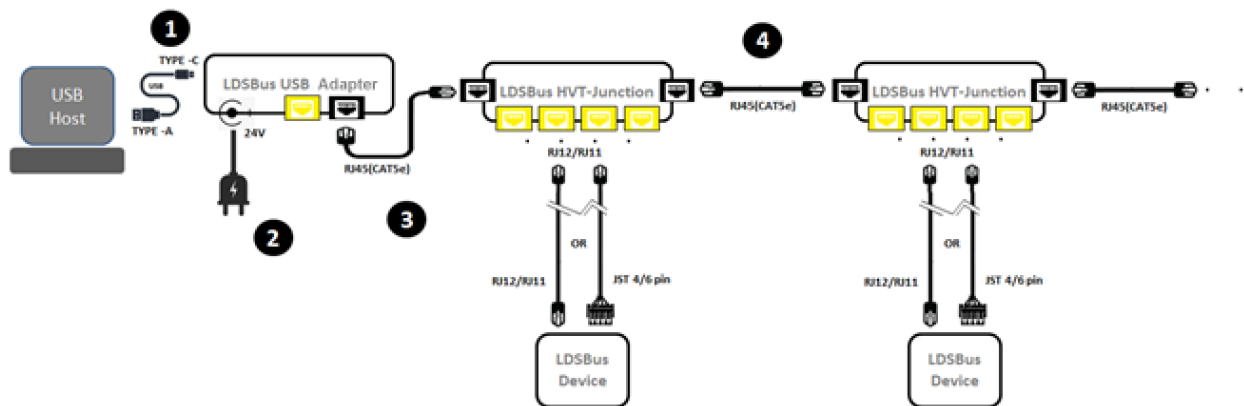

Figure 3 – LDSBus Creation
4. If there is more than one LDSBus HVT-Junction device, daisy chain them together as shown in Figure 3 using RJ45 (CAT5e) cable(s). The termination on the last LDSBus device must be set to the ON state.
| Figure 3 – LDSBus Creation | 8 |